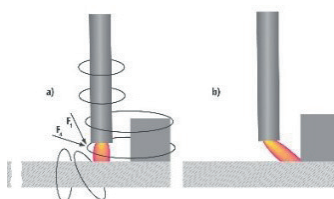

Fig. 39: Steel masses attract the arc.
- / Large steel masses attract the arc (Figure 39). In overlay welding, the arc is attracted by the previously laid bead, and when lap joints are being welded, the sheet that is placed down deflects the arc.